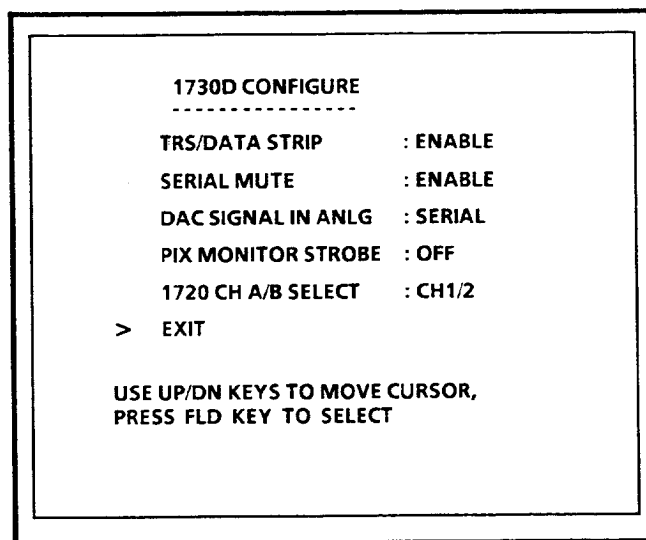

Figure 1-17: The 1730D Configure menu
- b.** Push the DN switch until the > aligns with the 1730D CONFIGURE. Note that the cursor will wrap around. Press the FLD [MENU] switch to select the 1730D CONFIGURE menu. The menu will appear on the CRT. See Figure 1-17.
- e. Push the DN switch until the cursor is at EXIT. See Figure 1-17. Push the FLD [MENU] switch and return to the Main menu and push the FLD [MENU] switch again to restore the waveform display.